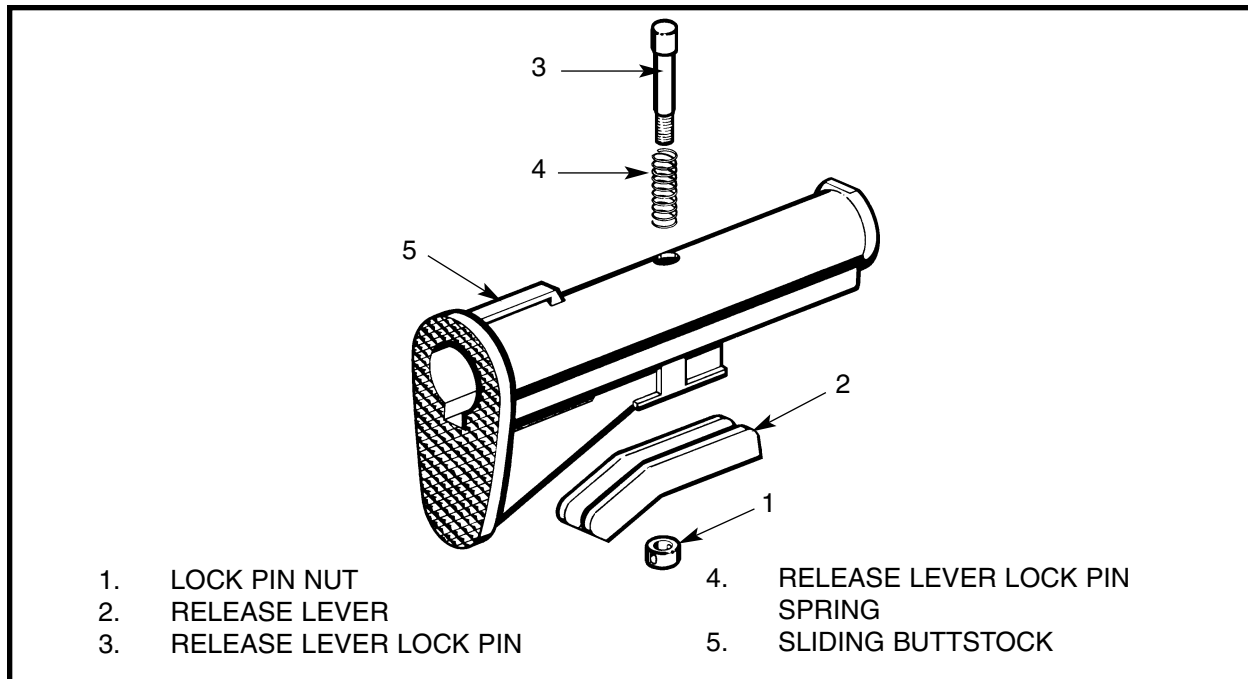

Figure 3-2-60 Disassembling the Sliding Butt Assembly
- c. Remove the lock pin nut (1), release lever (2), release lever lock pin (3) and release lever lock pin spring (4) from the sliding buttstock (5). See Figure 3-2-60.